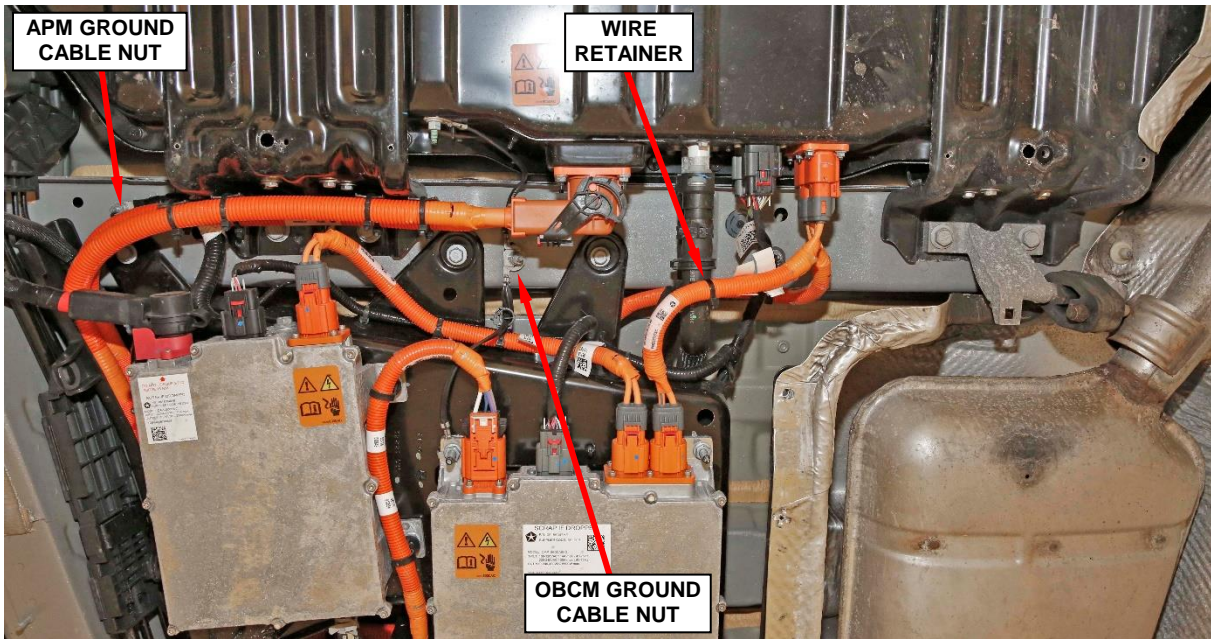

Figure 33 – Wire Retainer and Ground Cable nuts
- 18. Release the wire retainer from the coolant hose (Figure 33).
- 19. Remove the On-Board Charging Module (OBCM) chassis ground cable nut and Accessory Power Module (APM) chassis ground cable nut (Figure 33).
30. Install the OBCM and APM chassis ground cable nuts and tighten to 9 N·m (80 in. lbs.) (Figure 33).
31. Attach the wire retainer to the coolant hose (Figure 33).